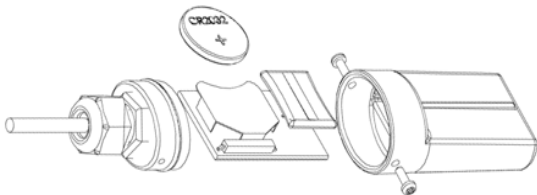

Figure 4: Battery Replacement
- 1. See Figure 4. Remove the two screws that secure the end cap to the case and remove the cap. The circuit board is attached to the cap.